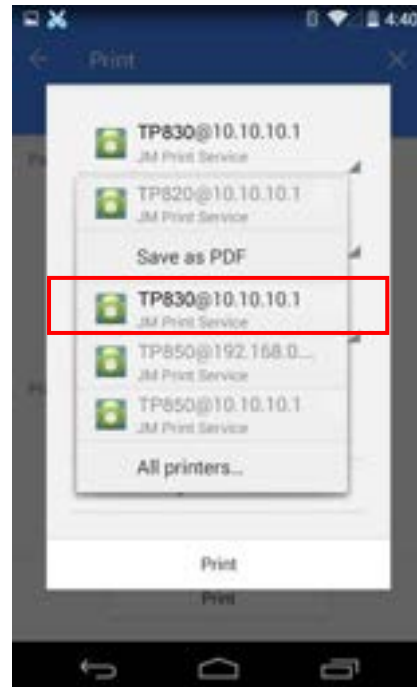

Figure 30
4.6 Select “TP830@10.10.10.1”, as shown in Figure 30;